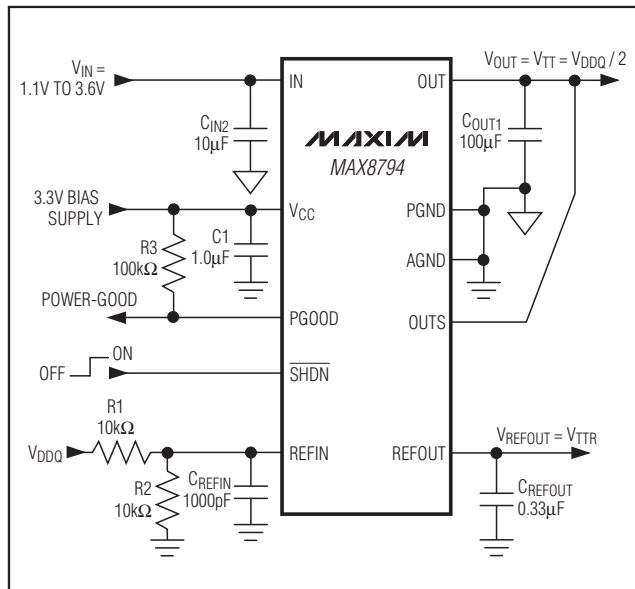

Figure 1. Standard Application Circuit
($V_{IN} = 1.8V$, $V_{CC} = 3.3V$, $V_{REFIN} = V_{OUTS} = 1.25V$, $\overline{SHDN} = V_{CC}$, circuit of Figure 1, $T_A = -40^{\circ}C$ to $+85^{\circ}C$, unless otherwise noted. Typical values are at $T_A = +25^{\circ}C$.) (Note 1)
(Circuit of Figure 1. $T_A = +25^\circ\text{C}$, unless otherwise noted.)
The MAX8794 is a low-voltage, low-dropout DDR termination linear regulator with an external bias supply input and a buffered reference output (see Figures 1 and 2). V_{CC} is powered by a 2.7V to 3.6V supply that is commonly available in laptop and desktop computers. The 3.3V bias supply drives the gate of the internal pass transistor, while a lower voltage input at the drain of the transistor (IN) is regulated to provide V_{OUT} . By using separate bias and power inputs, the MAX8794 can drive an n-channel high-side MOSFET and use a lower input voltage to provide better efficiency.
The MAX8794 regulates OUTS to the voltage set at REFIN, making the MAX8794 ideal for memory applications where the termination supply must track the supply voltage. Typically, REFIN is set by an external resistive voltage-divider connected to the memory supply (VDDQ) as shown in Figure 1.